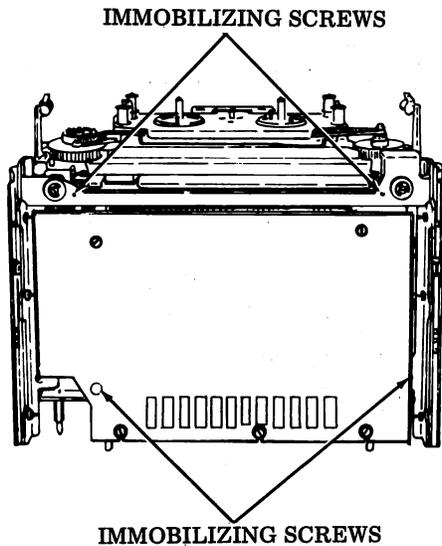

Fig. 15—Immobilizing Screws
3.18 Place printer on its rear and back off the four black immobilizing screws seven or eight turns (Fig. 15). Place printer aside.